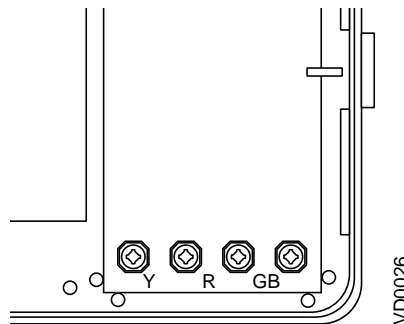

figure 16
- 4- Connect the wires to the main control. (See figure 16)